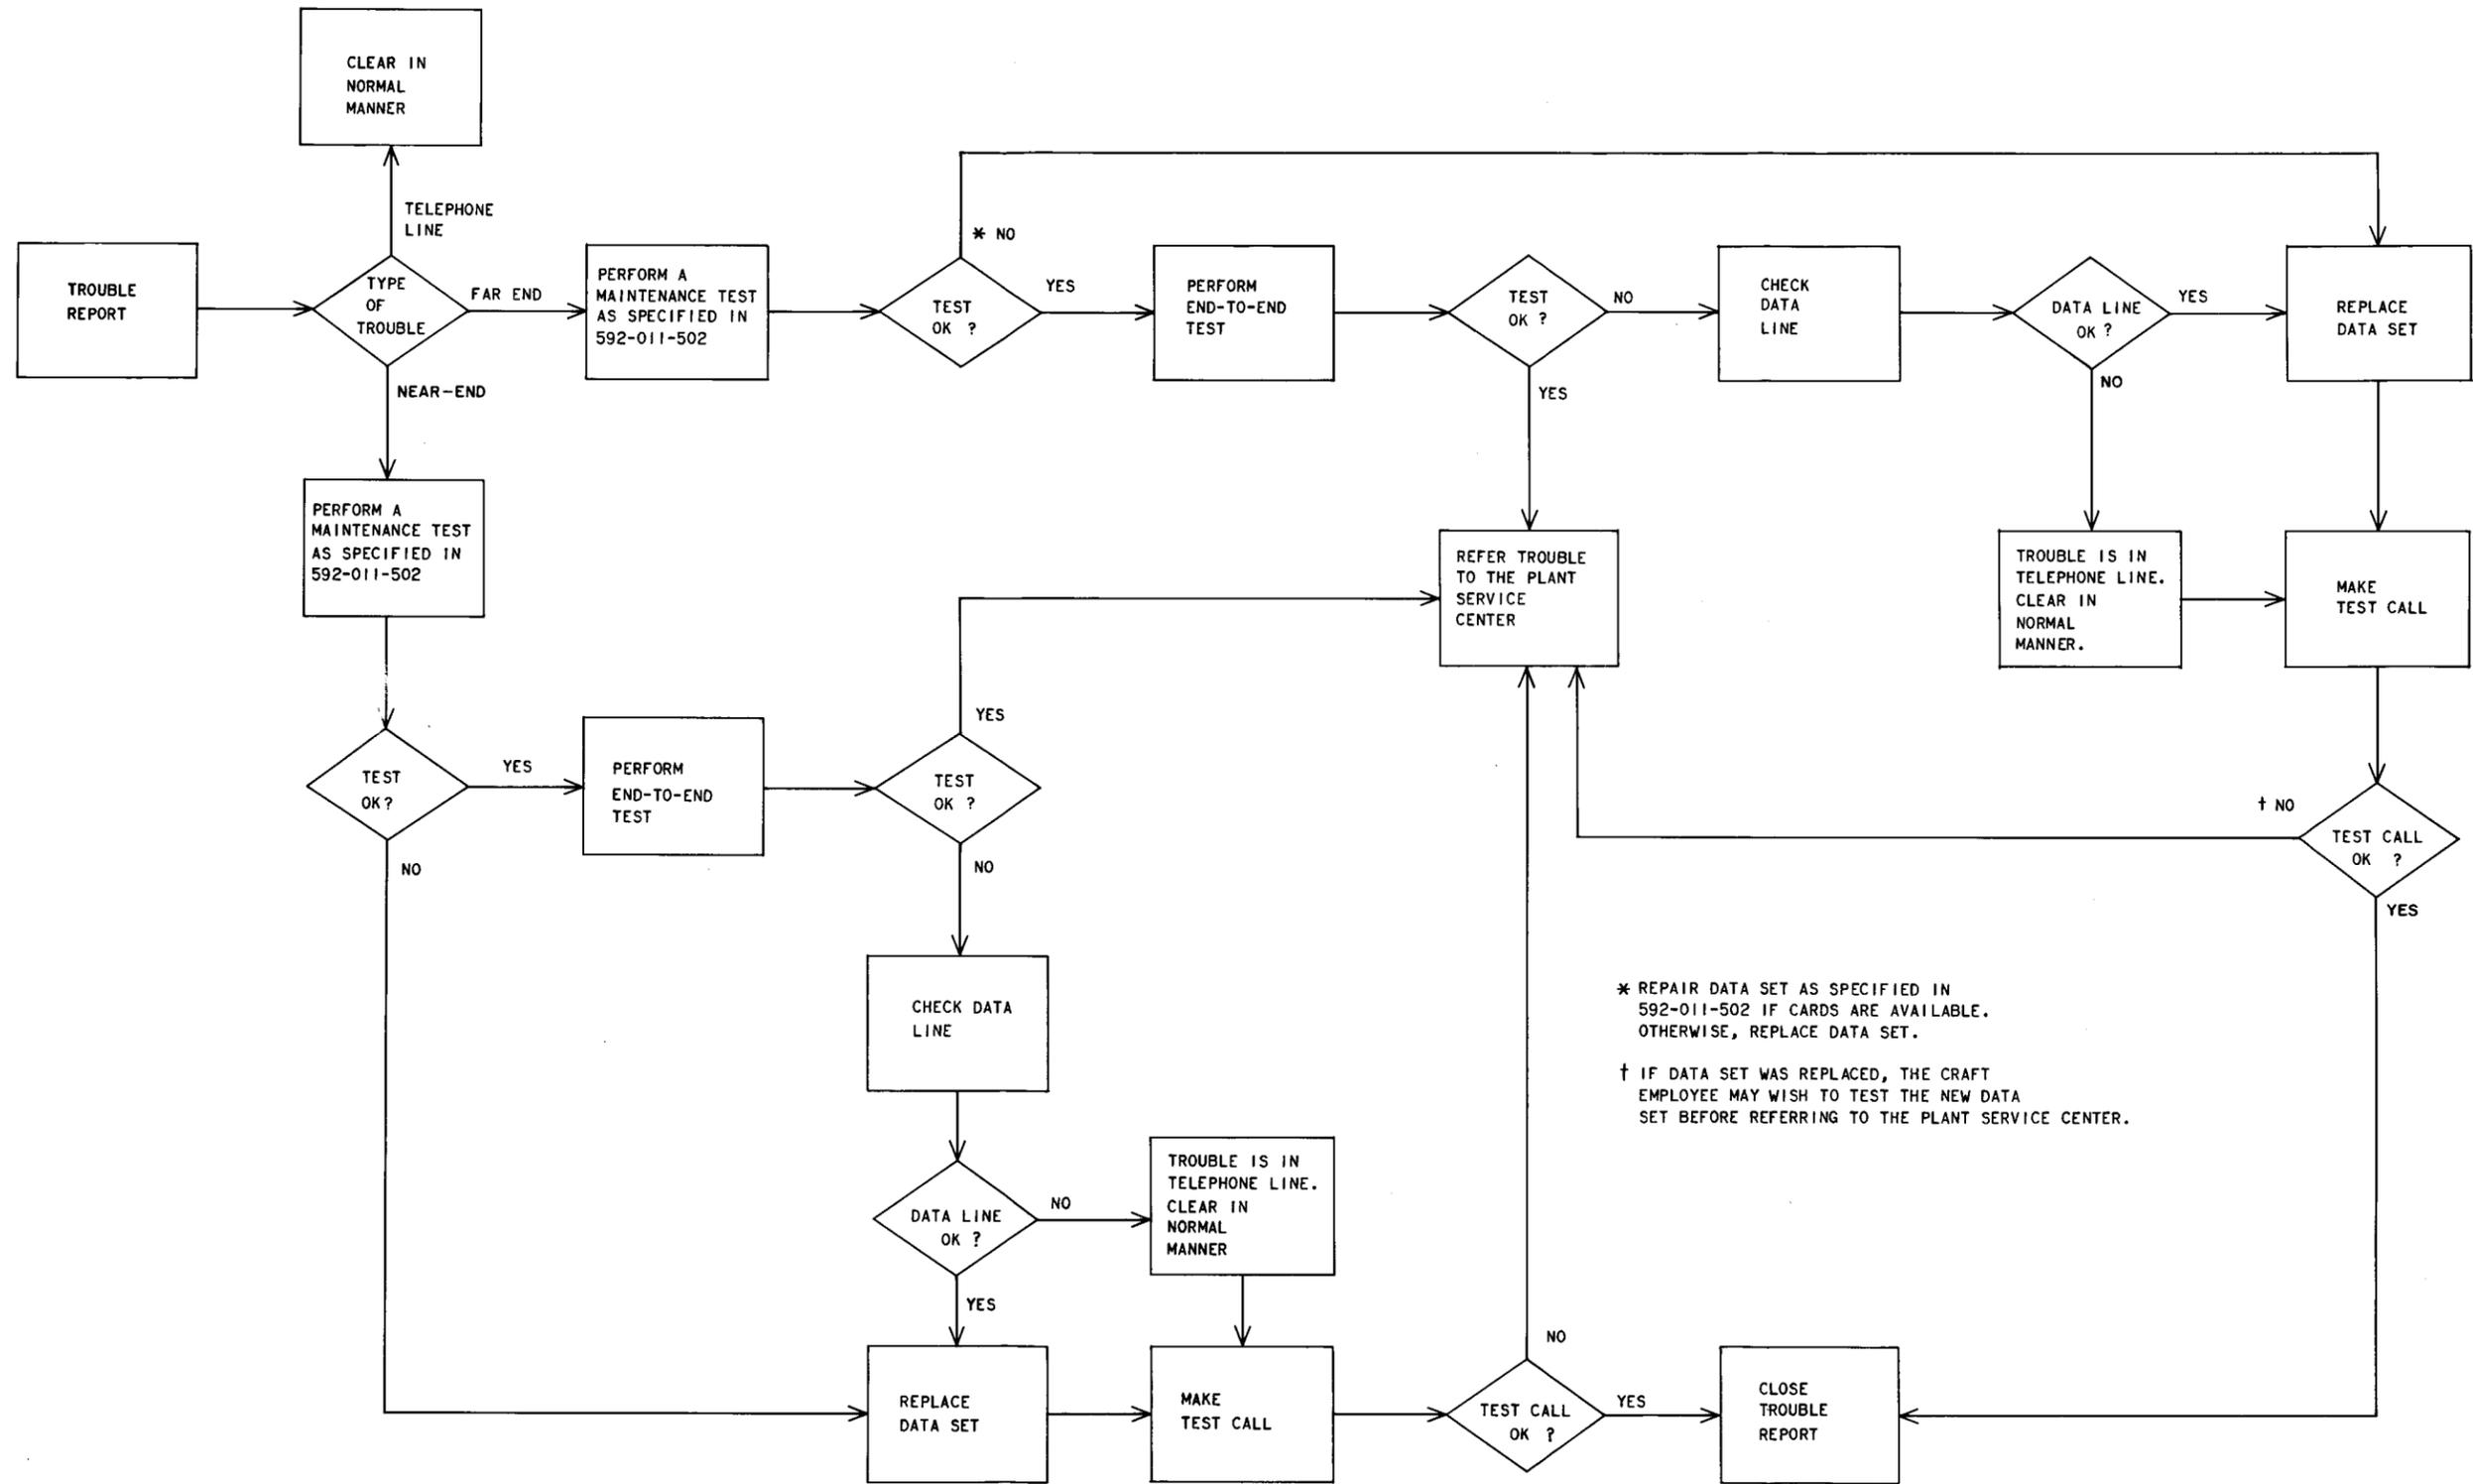

Fig. 1—Trouble Reporting and Investigating
2.01 When investigating a trouble report, proceed as outlined in Fig. 1. For information on testing Data Set 201 list type, refer to the section entitled Data Sets 201A and 201B List Type, Transmitter-Receiver, Test Procedures (592-011-502). If the 914B Data Test Set (DTS) is used, it will be necessary to first perform the installation test in order to obtain the information required for finding and replacing the defective cards in the data set. If new cards are not available to replace any defective cards found, the data set must be replaced. When replacing a data set, the new data set must have the same list combination and option strapping as the data set being replaced.